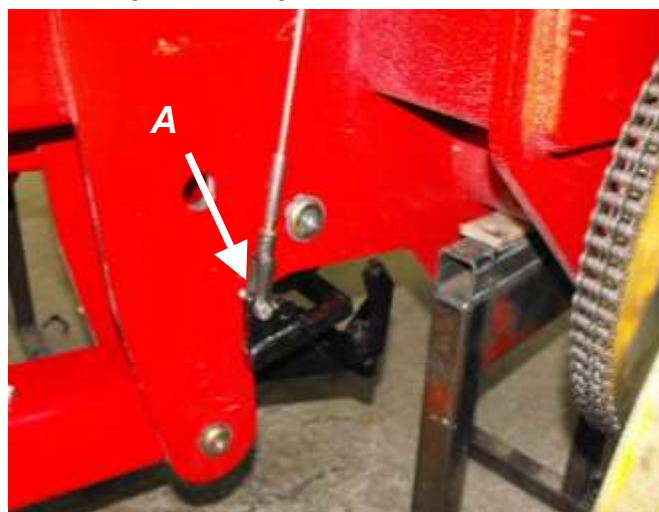

Figure 12C
1. For the soybean seeding configuration (Without fertilizer application) you must link the clutch cable to lower rear parallel arm. [Figure 12C, **A**]. For the soybean seeding configuration (With fertilizer application) you must leave the clutch cable in corn planting configuration [Figure 12A, **A**].